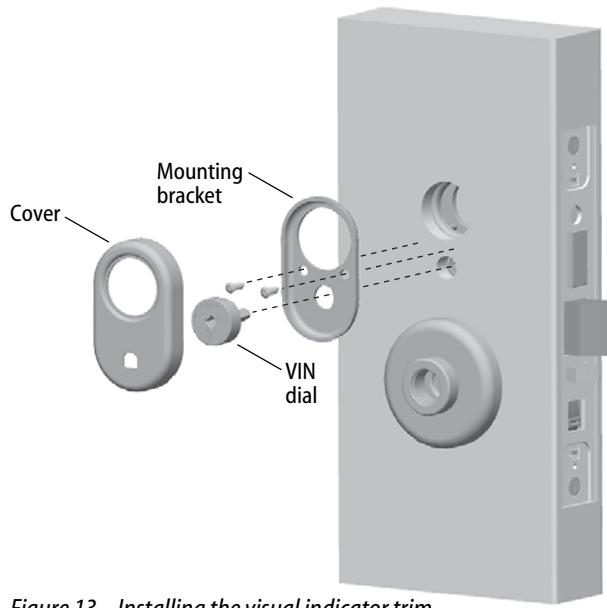

Figure 13 *Installing the visual indicator trim*
- 3 Orient the visual indicator (VIN) dial with the text at the top and position it in the door as shown in Figure 13.